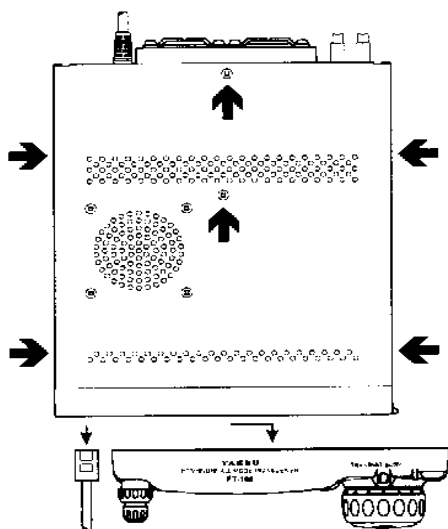

Figure 1
2. Referring to Figure 1, remove the six screws affixing the top case of the transceiver, and remove the top case; disconnect the speaker's connector when you remove the top case, and disconnect the front panel of the transceiver. Remove the MIC connector at the same time.